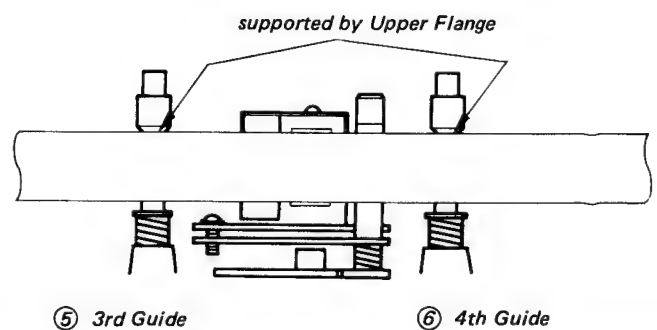

Fig. 5-116 Exit Side Tape Path
→ Proceed Exit guide adjustment. (refer to Fig. 5-116)
**5-b. Exit side adjustment (Fig. 5-116)**
2. The tilt adjustment screw ⑤ should be adjusted by a half quarter turn since the audio/control head assembly is adjusted critically in the vertical angle.
3. Do not tighten the 4th guide ⑥ too much since the audio level should be varied easily. (see Fig. 5-116)